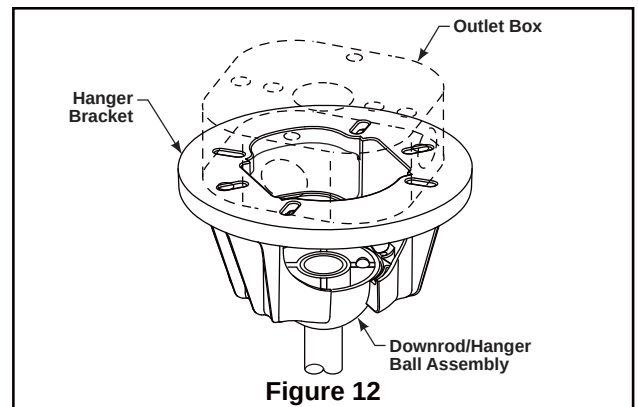

Figure 12
- ☐ 2. Carefully lift the fan and seat the downrod/hanger ball assembly on the hanger bracket that was just attached to the outlet box. Be sure the groove in the ball is lined up with tab on the hanger bracket. (Figure 12)